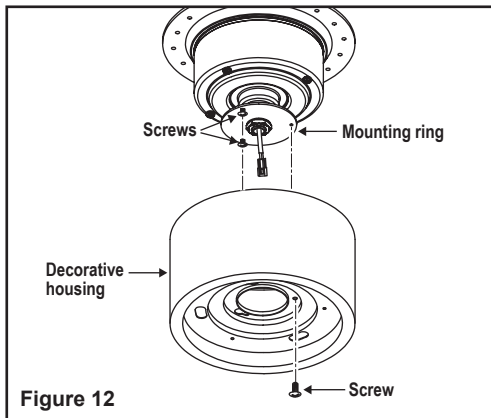

Figure 12
Step 2. Place the key holes on the decorative housing over the 2 screws previously loosened from the mounting ring, turn decorative housing until it locks in place at the narrow section of the key holes. Secure by tightening the 2 screws previously loosened and the one previously removed. (Fig. 12)